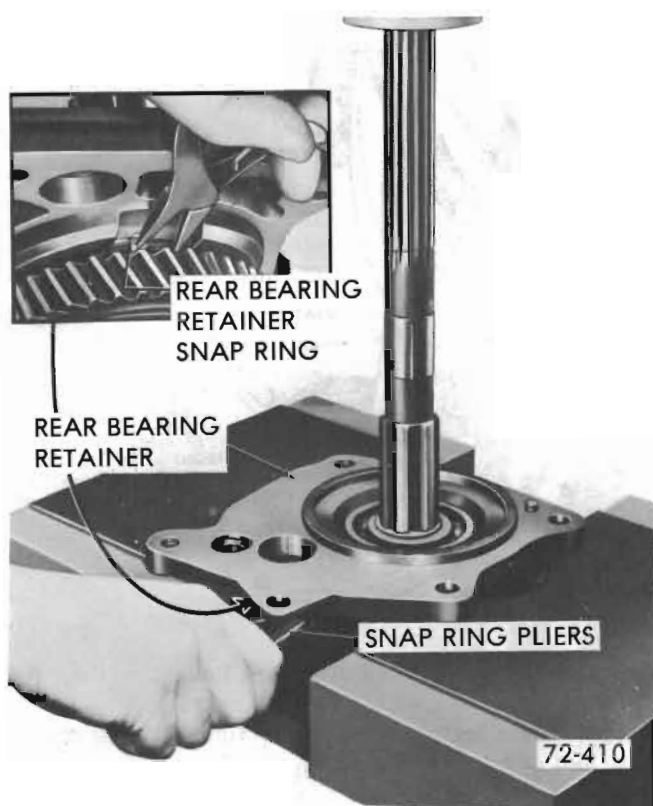

Figure 72-47 - Removing Rear Bearing From Retainer
2. Spread rear bearing retainer snap ring and press mainshaft out of retainer. See Figure 72-47.